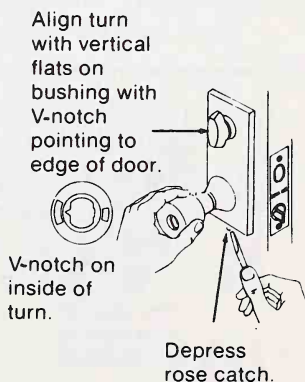

Fig. 18-47.
15. Install the inside rose with the turn unit in the vertical position and the V-notch on the inside of the turn pointing to the edge of the door (Fig. 18-47). Engage the top of the rose with the mounting plate and, depressing the catch, snap the rose into place. Align the lug on the knob with the slot in the spindle and depress the knob catch. Push the knob home.